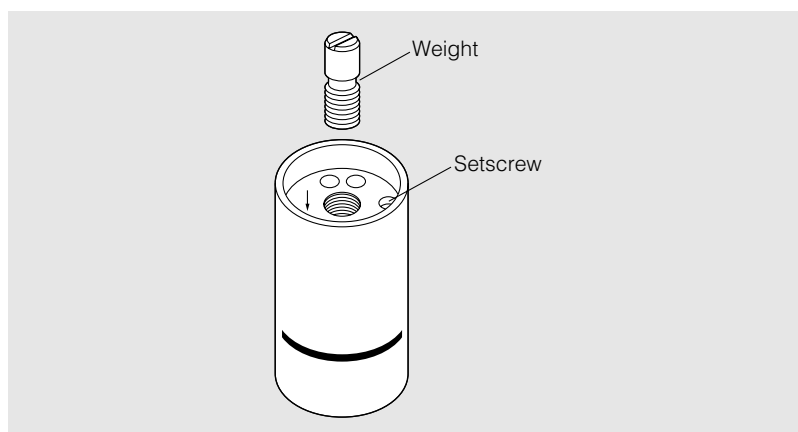

Figure 2-11. Inserting Weights into the Counterbalance
1. Screw weights into the weight attachment hole at the top of the counterbalance (see Figure 2-11) so that the counterbalance weighs within 0.5 gram of the assembled cell.